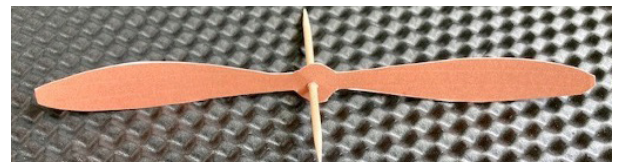

Figure 5. Push the toothpick through the hole in the center of one of the rotor blades.
- Push a toothpick through the hole in the center of one of the rotor blades. The rotor blade should be about 3/4 of an inch from the end of the toothpick as shown in Figure 5.